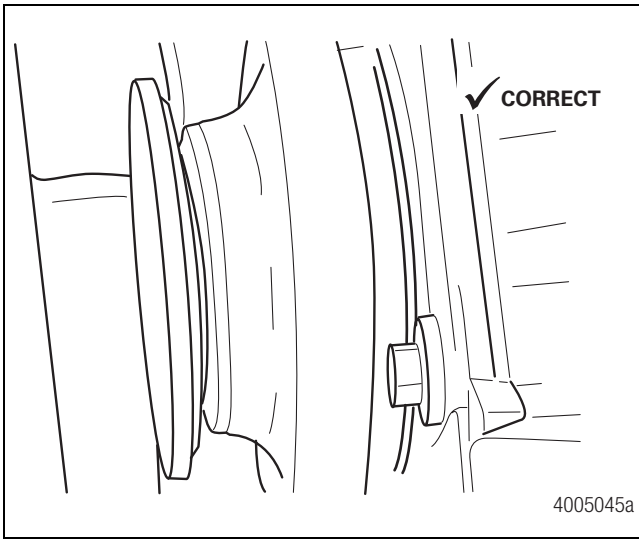
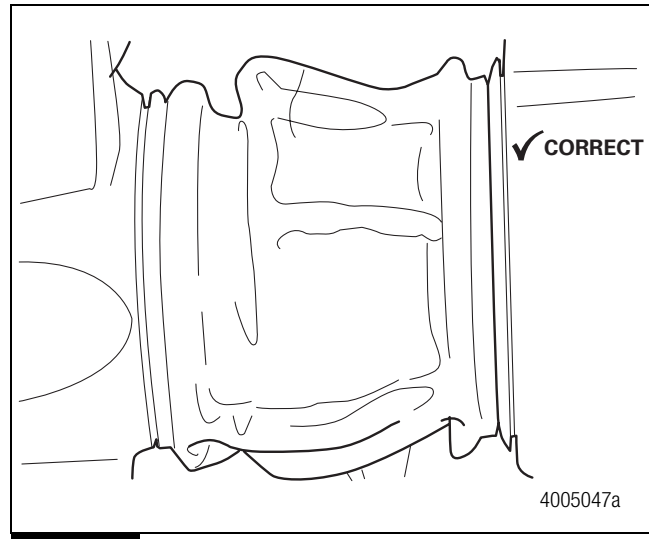
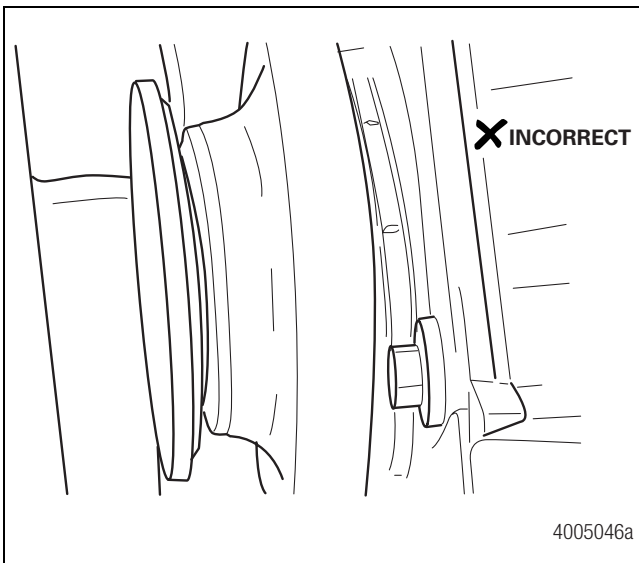

Figure 4.9
Figure 4.11
Figure 4.10
12. With the pads removed, visually inspect the caliper slide pin boots and piston boots. All slide pin and piston boots should be free from damage and should be correctly seated. Figure 4.9, Figure 4.10 and Figure 4.11.